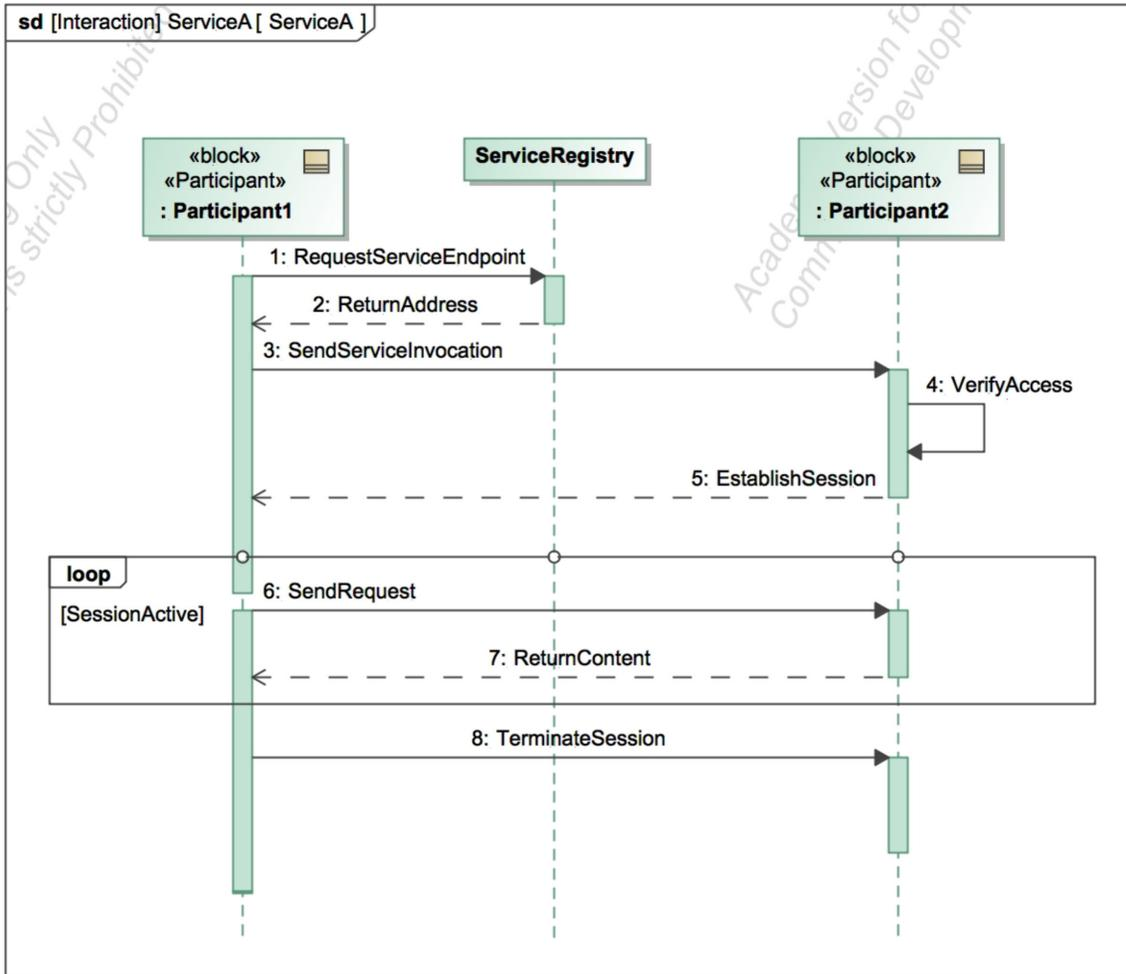

Figure D5. Service Transaction Modeled in a Sequence Diagram
- Service behavior is most commonly modeled in an SD because service transactions are generally message-based. Fig. D5 shows an example.